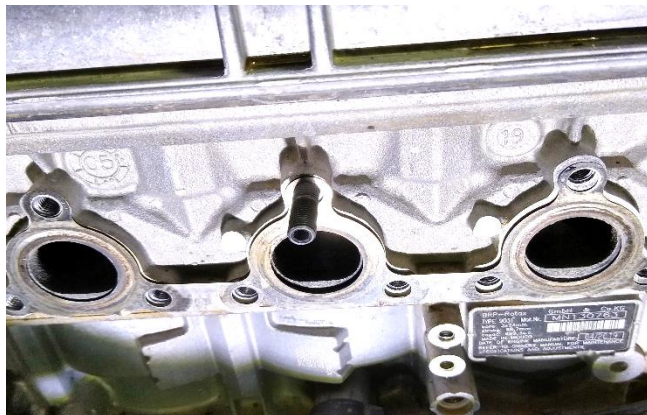

Figure 1
Step 2: Install the provided stud into the top hole of the center exhaust port, thread stud in and back it out one full turn (See Fig. 1)